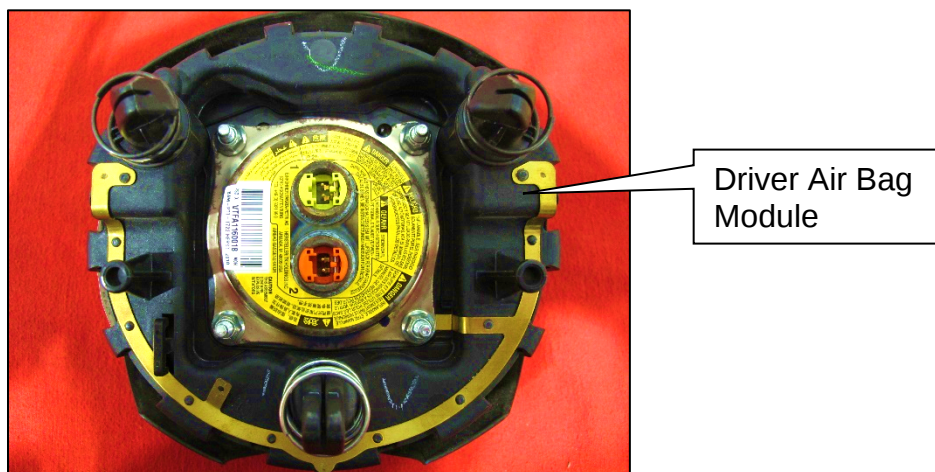

Figure 1
6. Set the Driver Air Bag Module in a clean working area with the Nissan emblem facing down, as shown in Figure 1.